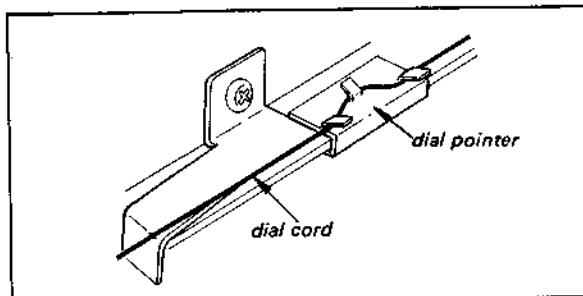

Fig. 2-7. Dial pointer installation
4. Put the dial pointer on the cord as shown in Fig. 2-7, and tune the set to the local fm station. Move the dial pointer to the position where the dial indication coincides with the local station carrier frequency.